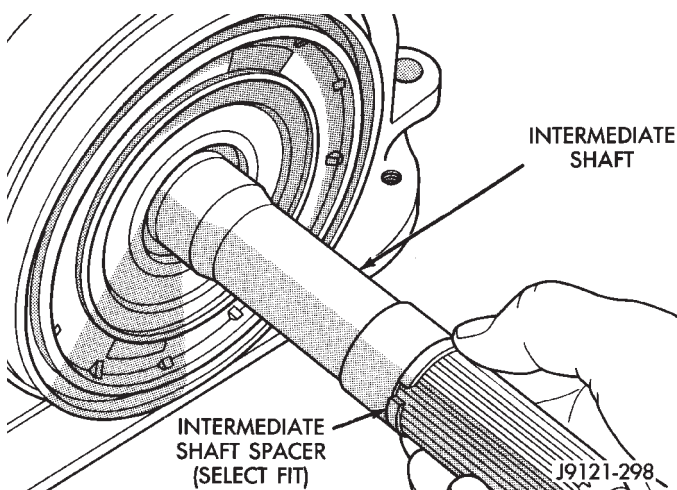

Fig. 6 Intermediate Shaft Spacer Location
- (2) Remove intermediate shaft spacer (Fig. 6). Retain spacer. It is a select fit part and may possibly be reused.